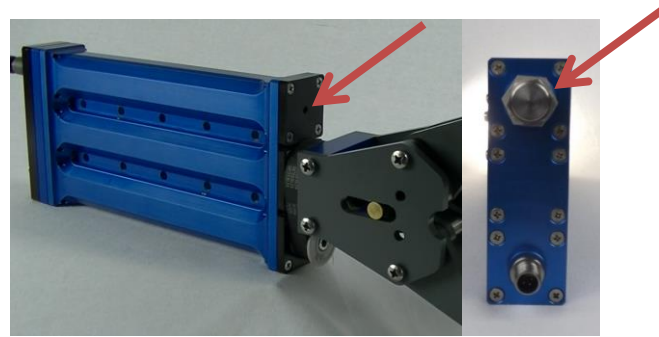

Figure 7: Bellows Piston and Oil Port
1. Insert an M3x25 socket cap screw into the bellows piston through the bellow port (see Figure 7 below) such that it *gently* seats on the front cap. **Failure to do this will result in loss of oil.**